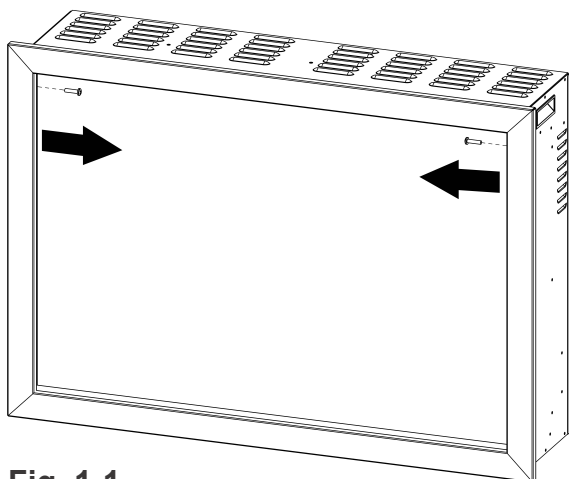

Fig. 1-1
- A. Take off the screws on both sides. (Fig. 1-1)